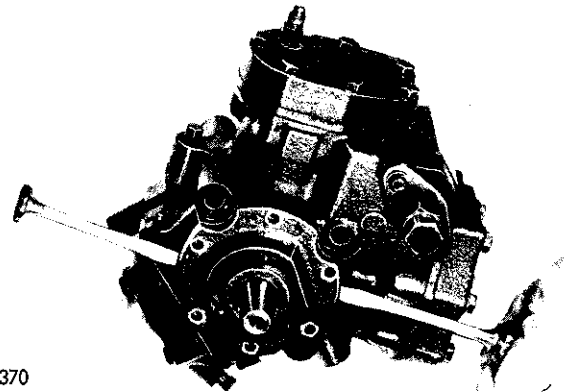

Fig. 40—Removing the Crankshaft Bearing Housing
- (1) Remove the crankshaft housing seal bolts.
- (2) Remove the bearing housing from the case, using two screwdrivers inserted in the slots provided to pry the housing from the case. (See Fig. 40).
- (3) Remove the crankshaft bearing housing seal face plate from the bearing housing. This is part of the gas seal replacement package and must be replaced when the gas seal assembly is replaced.
- (4) Remove the gas seal from the crankshaft.